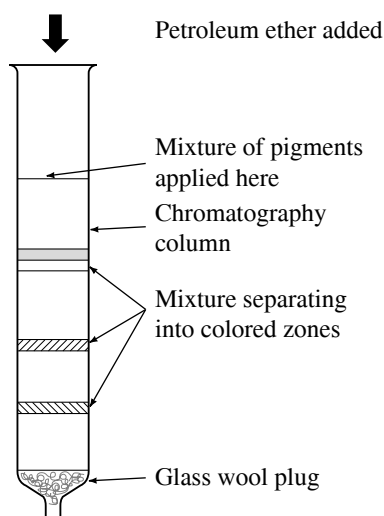

Figure 23.8
2. Use a 25-mL buret. (You may use a chromatographic column, if available, of 1.6 cm diameter and about 13 cm long; see Figure 23.8. If you use the column instead of the buret, all quantities below should be doubled.)